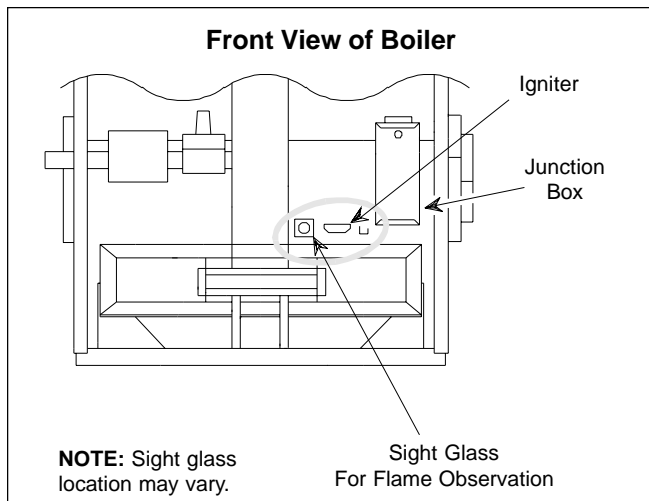

Figure 13. Periodic Flame Observation.
pre-ignition purge, while the fan clears the combustion chamber, the igniter is turned on. The igniter takes about 25 seconds to heat up. You can see a glow through the view port (see Figure 13).
- c. When the igniter is hot, the ignition control turns on the gas valve and the burner ignites. You can see the burner flame through the view port (see Figure 13).